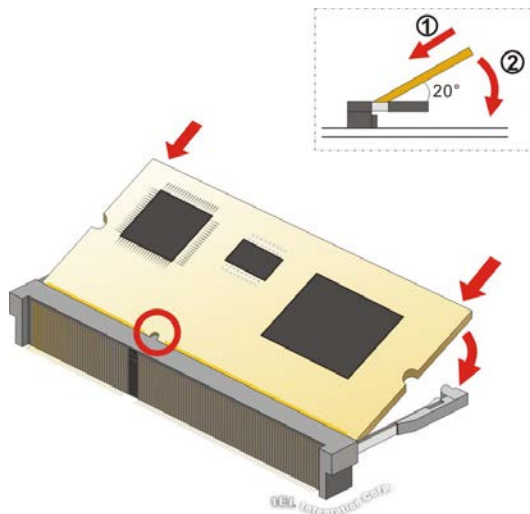

Figure 4-7: iRIS-2400 Module Installation
To install the iRIS-2400 module, please follow the steps below and refer to **Figure 4-7**.
- Step 3:** Insert the iRIS-2400 module. Push the module in at a 20° angle (**Figure 4-7**).
- Step 4:** Seat the iRIS-2400 module. Gently push downwards and the arms clip into place (**Figure 4-7**).